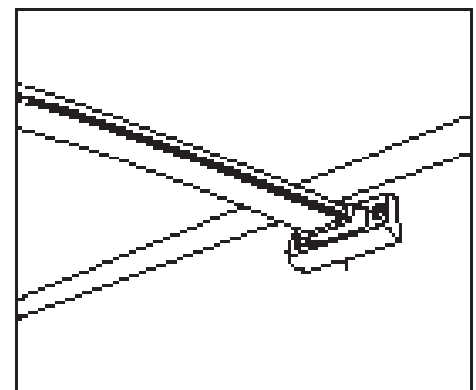

Fig.11
4. Loosen the knob on the rubber tip end of the arm and push the Awnbrella arm up against the fabric. Slip the rubber tip end of the arm into the hanger block mounted on the RV (**Fig.11**). The harder the Awnbrella arm is pushed against the fabric, the more tension will be applied to the awning.